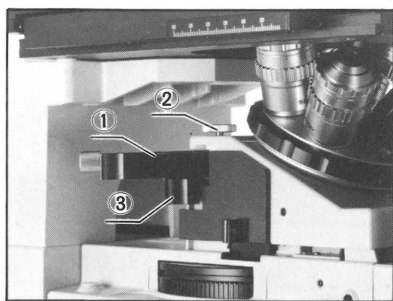

Fig. 11
- 1) Pull out the DIC attachment ① and tighten the clamping knob ②. (Fig. 11)
- 2) Push in the analyzer plate ③ all the way. (Fig. 11)